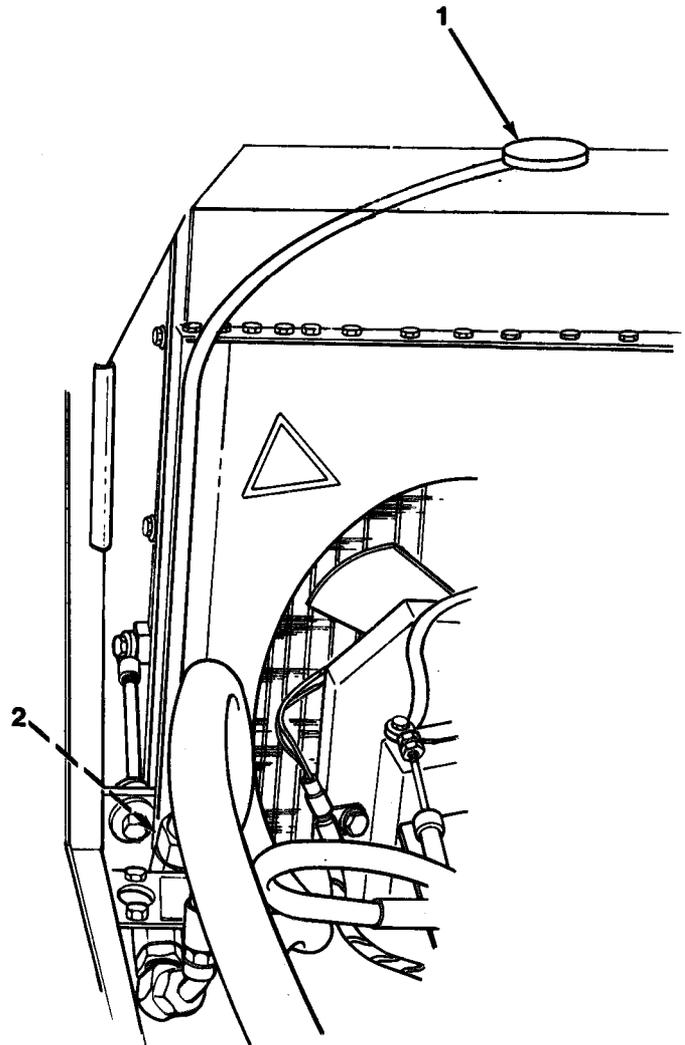

Figure 9-1
3. Remove radiator cap (1) and open drain valve (2, Figure 9-1). Drain coolant into a container large enough to hold 28 qt (26.50 L).